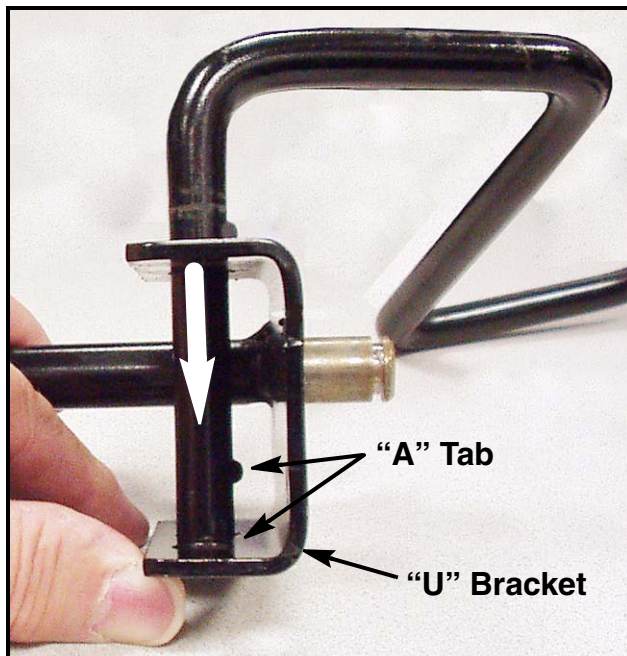

FIGURE 6
21. Insert the new lift handle into the keyed hole in the new Lift Shaft Assembly (Item 1) until the "A" tab is against the inside of the "U" bracket. See Figure 6.